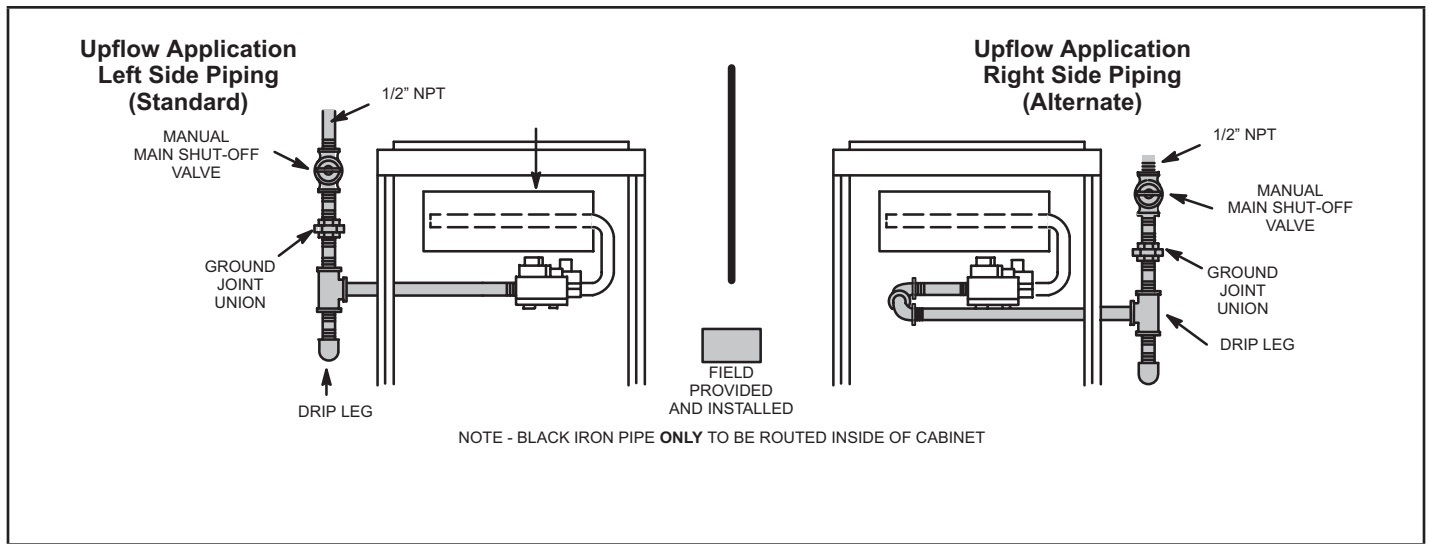
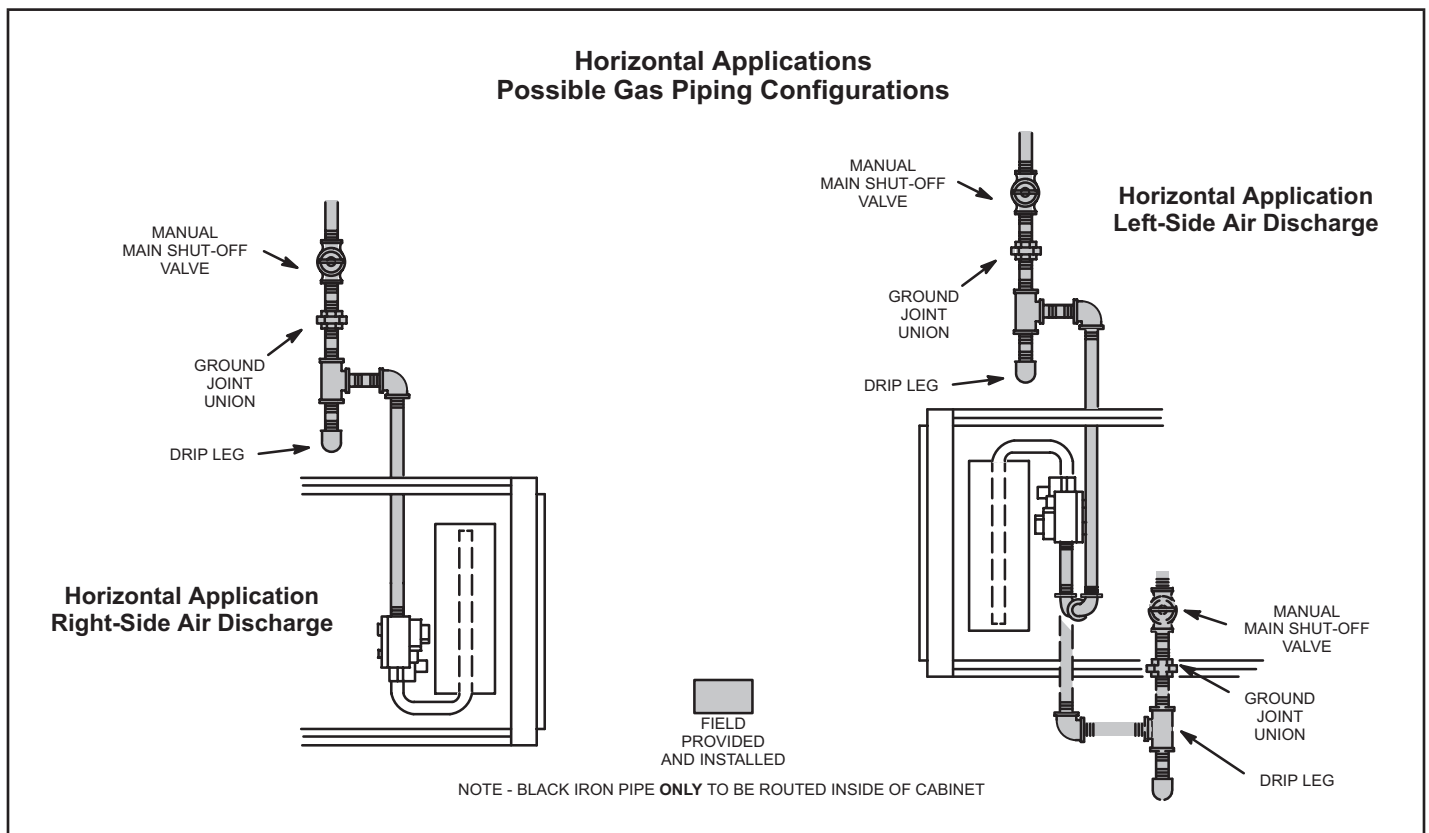

FIGURE 56
FIGURE 57
- 1 - Gas piping may be routed into the unit through either the left- or right-hand side. Supply piping enters into the gas valve from the side of the valve as shown in "FIGURE 56". Connect the gas supply piping into the gas valve. The maximum torque is 800 in lbs and minimum torque is 350 in lbs when attaching the gas piping to the gas valve.
- 3 - Gas piping must not run in or through air ducts, clothes chutes, chimneys or gas vents, dumb waiters or elevator shafts. Center gas line through piping hole. Gas line should not touch side of unit. See "FIGURE 56" and "FIGURE 57".